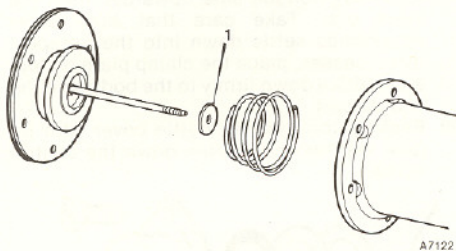

Fig. 5. Fitting the diaphragm to the coil housing. Note the impact washer (1).
- 6 Place the armature spring into the coil housing with its large diameter towards the coil (see Fig. 5).